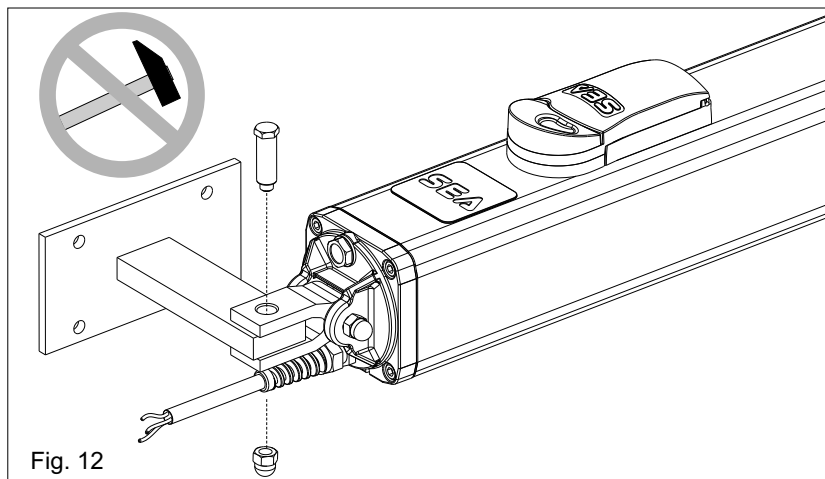

Fig. 12
- Attach the rear oscillating bracket as shown in fig. 12